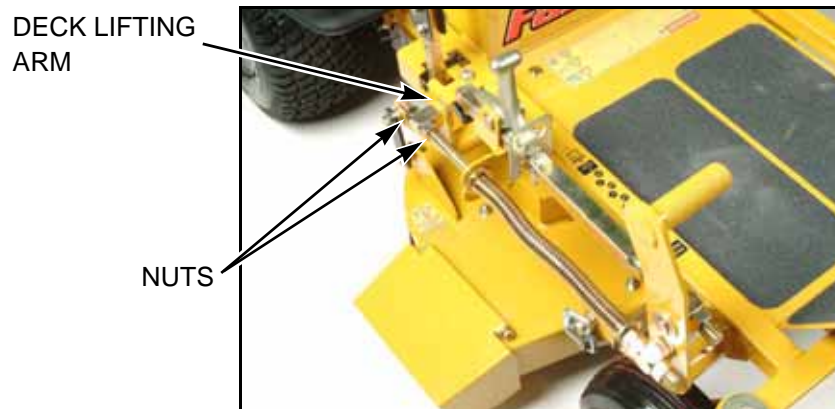

FIG. 31
5. Loosen the two nuts that hold the right rear deck lifting arm. (FIG. 31)
8. Check to make sure the deck is resting firmly on all of the 3" blocks. Check the front right deck chain to be sure it is taut. Now, screw both nuts finger tight against the square block on the right rear deck lift arm. Tighten these two nuts. (FIG. 31)